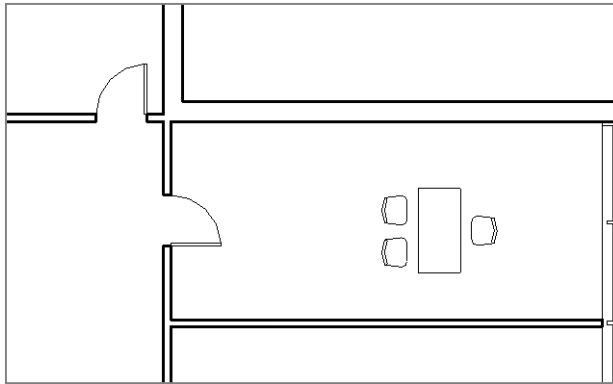

FIGURE 1.34 Place three chairs with the desk in the east wing.
6. Repeat this process for the desk in the east wing, but add two additional chairs on the opposite side of the desk (Figure 1.34).